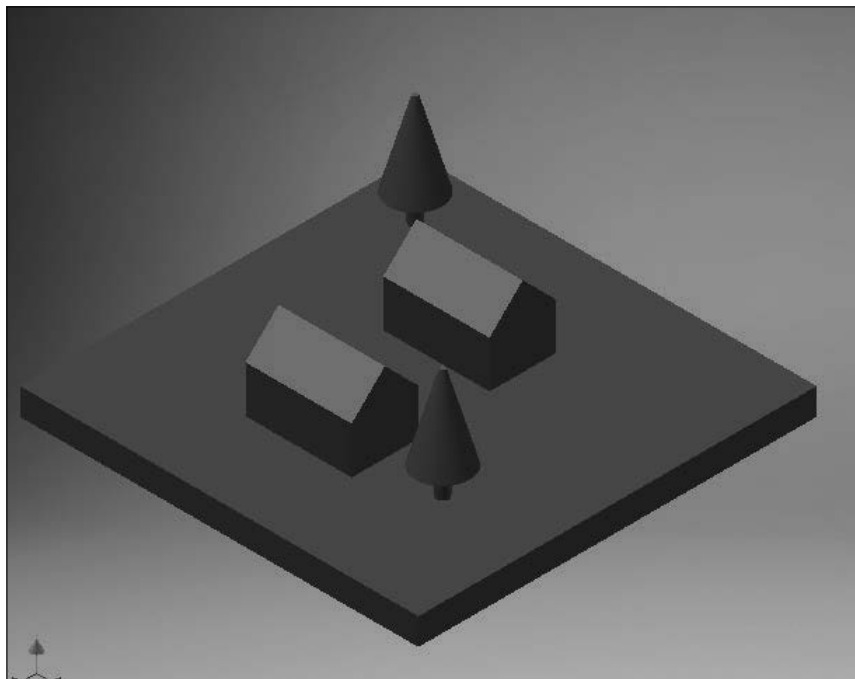

Figure-29. Model Practice 2
- The model of Practice 2 looks like Figure-29. This is an inventor file and air material should be created in Autodesk CFD.